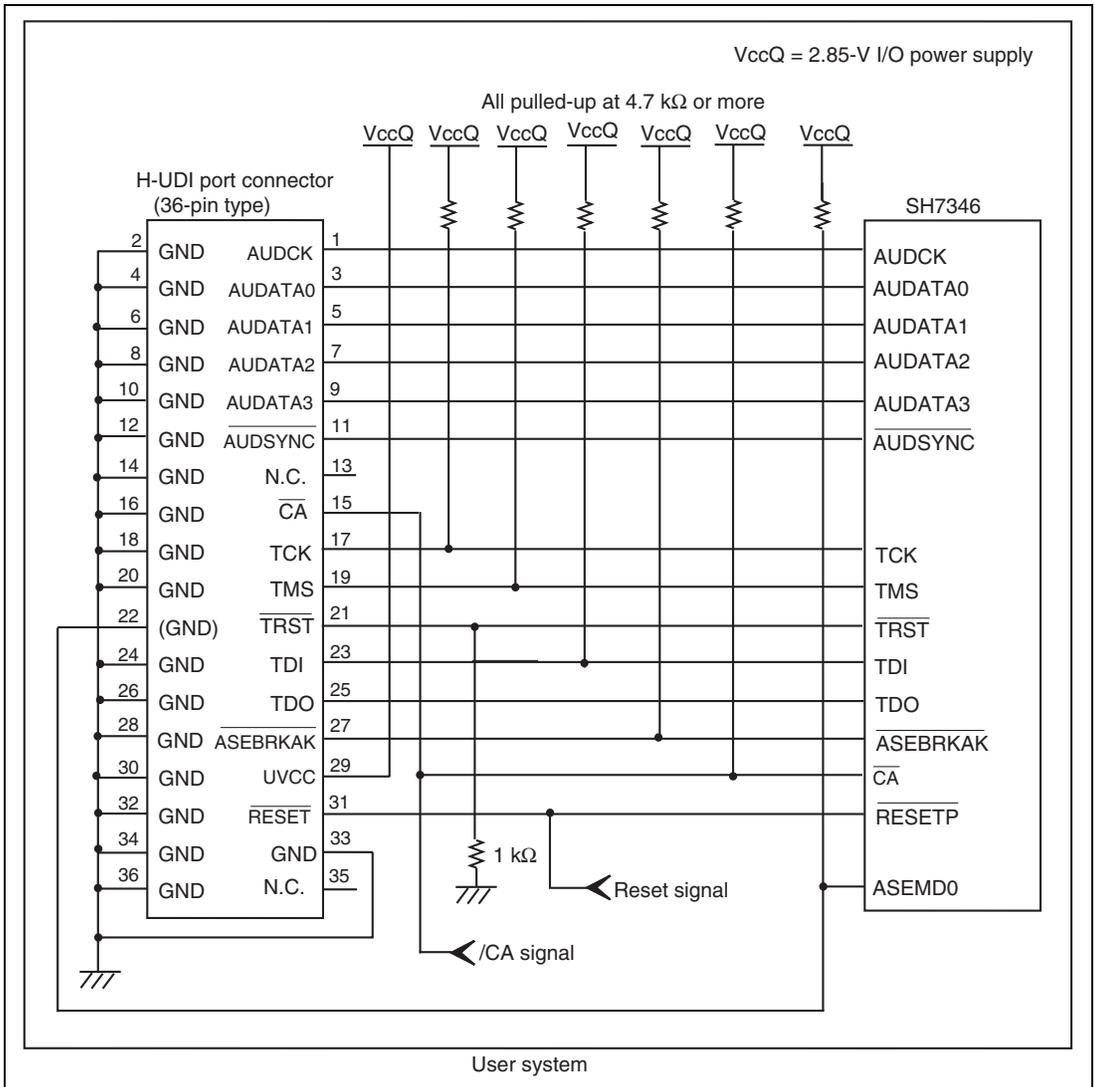

Figure 1.3 Recommended Circuit for Connection between the H-UDI Port Connector and MPU when the Emulator is in Use (36-Pin Type UVCC Connected)
Figure 1.3 shows a recommended circuit for connection between the H-UDI and AUD port connectors (36 pins) and the MPU when the emulator is in use.
- (1) When the emulator is used: /ASEMD0 = 0
- (2) When the emulator is not used: /ASEMD0 = 1
Figure 1.3 shows an example of a circuit that allow the /ASEMD0 pin to be GND (0) whenever the emulator is connected by using the user system interface cable. When the /ASEMD0 pin is changed by switches, etc., ground pin 22. Do not connect this pin to the /ASEMD0 pin.
8. Since the H-UDI and the AUD of the MPU operate with the VccQ, supply only the VccQ to the UVCC pin. Make the emulator's switch settings so that the VccQ will be supplied (SW2 = 1 and SW3 = 1) (as shown in figure 1.3).
9. The resistance values shown in figure 1.3 are reference.
When the circuit is connected as shown in figure 1.3, the switches of the emulator are set as SW2 = 1 and SW3 = 1. For details, refer to section 3.8, Setting the DIP Switches, in the SuperH™ Family E10A-USB Emulator User's Manual.